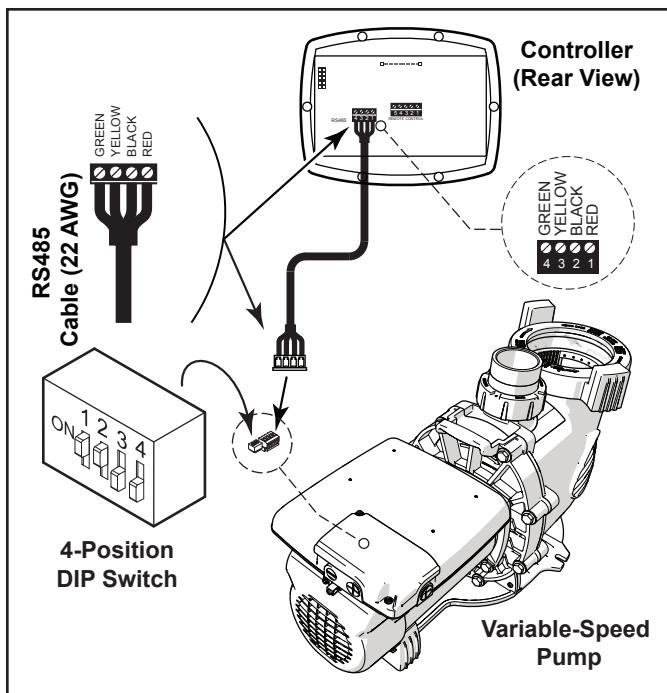

Figure 6. Wiring JEP-R VSP Controller
4. Attach the four (4) RS-485 cable wires to the RS-485 connector. Match the wire colors with the positions on the connector: See "Figure 6. Wiring JEP-R VSP Controller"
6. Dip switches 1 and 2 must be in the ON position, and switches 3 and 4 must be in the OFF position. See "Figure 6. Wiring JEP-R VSP Controller"
7. Connect the other end of the cable to the controller. Match the colors of the wires with the appropriate connector positions. See "Figure 6. Wiring JEP-R VSP Controller"